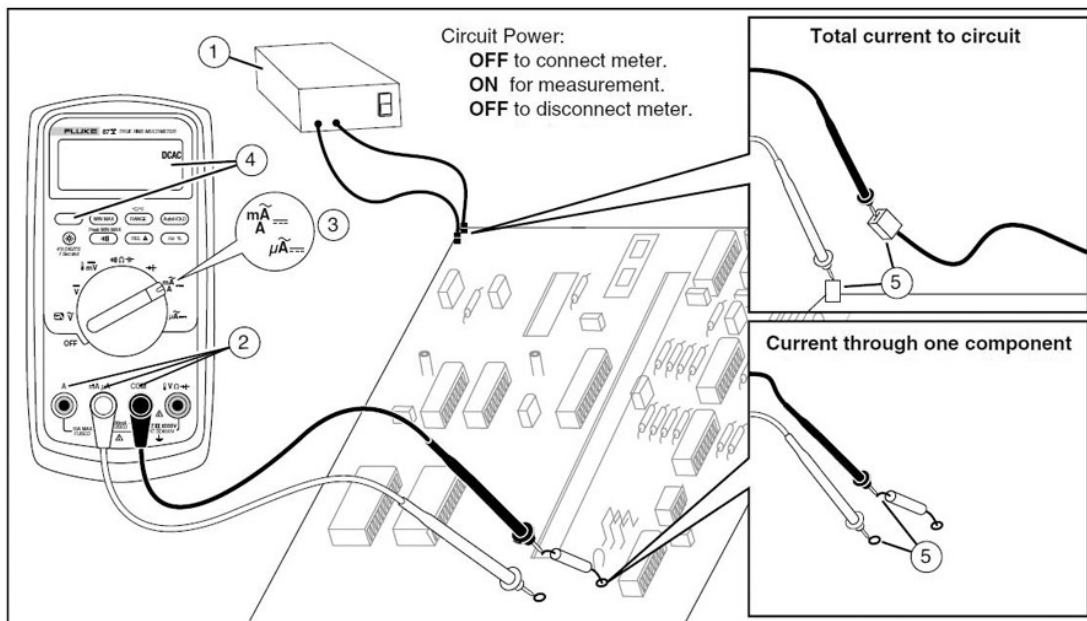

Figure 2-14. Measuring amperage.
- Insert the black lead into the communication (COM) terminal. For currents *between* 6 milliamperes (mA) and 400 mA, insert the red lead into the *mA/microampere* (μA) terminal. For currents *above* 400 mA, insert the red lead into the *A* terminal. Refer to the figure 2-14 below.